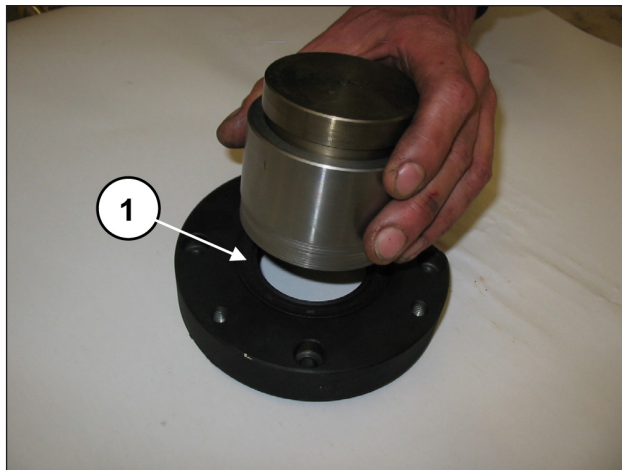

Fig. 63
Insert the radial seal ring into the PTO bearing cover using the tool code 27539500 (pos. ①, Fig. 63).